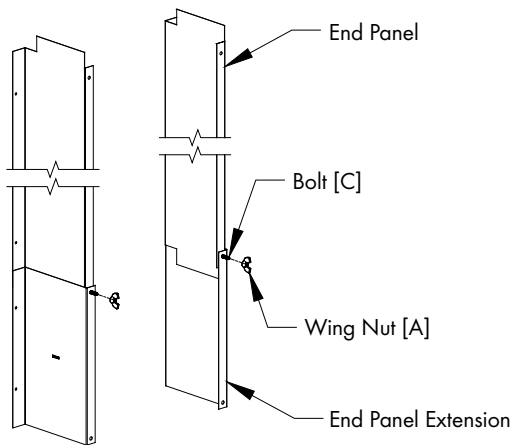
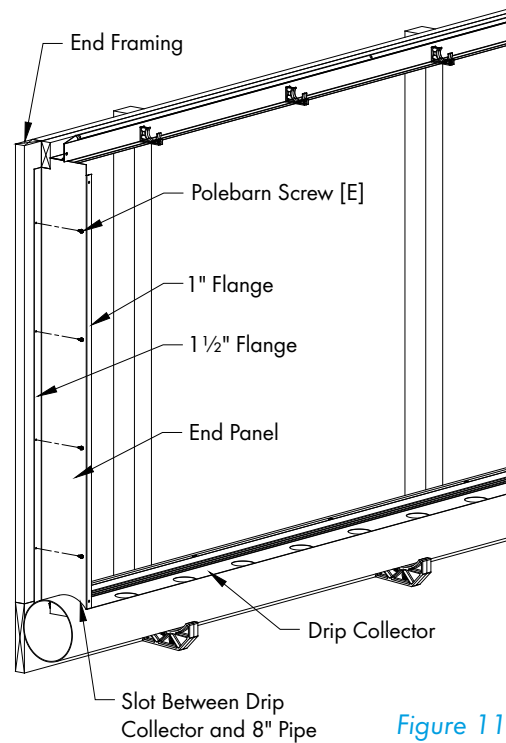

Figure 11A
Figure 11B
If installing a 6'H. system, fasten the End Panel Extension to the bottom of the End Panel using (1) Bolt [C] and Wing Nut [A]. The 1" flange and 1 1/2" flange should match with the bolt in the 1" flange. See Figure 11A. Position End Panel so the 1 1/2" Flange with 4/6 holes rests against End Framing with the 1" Flange away from the framing and the bottom tab sticking into the slot between the end of the Drip Collector and the end of the slot in the 8" Pipe. Push the End Panel up against the Drip Collector at the bottom and the Distribution Cap at the top and attach to End Framing with (4/6) Polebarn Screws [E]. See Figure 11B. Repeat for opposite End Panel.